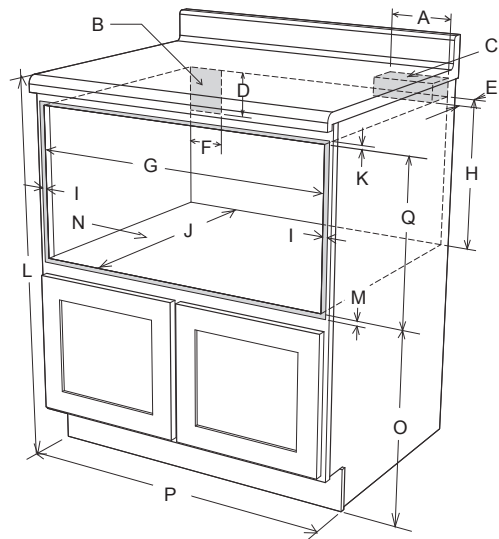
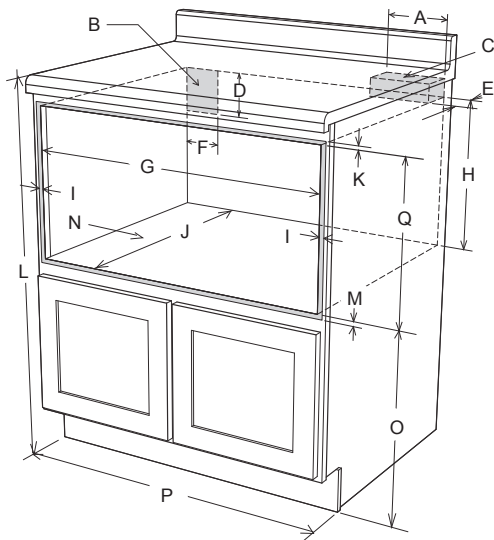

Figure 2
Figure 4
For SAFETY CONSIDERATIONS do not install the drawer in any combustible cabinetry, which is not in accord with the stated clearances and dimensions on pages 3, 4 and 5. See **Figure 2** (for 24") or **Figures 4 and 5** (for 30").
- Dimensions that are shown in **Figures 2, 4 and 5** must be used. Given dimensions provide minimum clearance. Locate the electrical outlet in the shaded area in the upper left-hand corner of the cutout. See **Figure 8**.
To reduce the risk of tipping the drawer, the anti-tip block must be properly installed 14 ¾" above the floor cutout. The 6" anti-tip block must be provided by the installer. See **Figures 2 and 6** for (24") or **Figures 4, 5, and 6** (for 30"). The anti-tip block prevents serious injury that might result from spilled hot liquids.